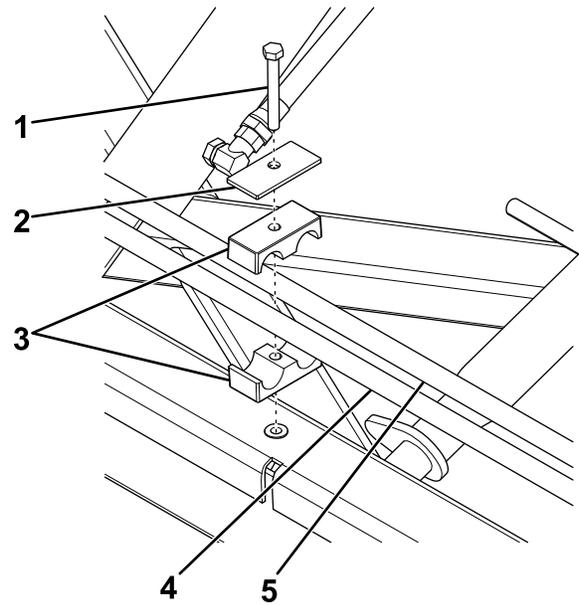

Figure 11
- Route the long hoses connected to XR1 and XR2 on the hydraulic manifold to the right side of the plow, and loosely secure them to the center blade using a hose clamp, clamp plate and bolt (5/16 x 2-1/2 inches) as shown in Figure 11.